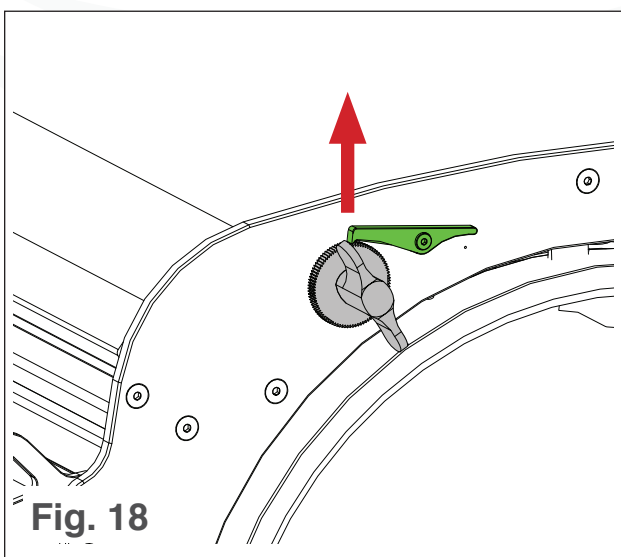

Fig. 18
7. Raise the locking mechanism on the tensioning knob (see Fig. 18).